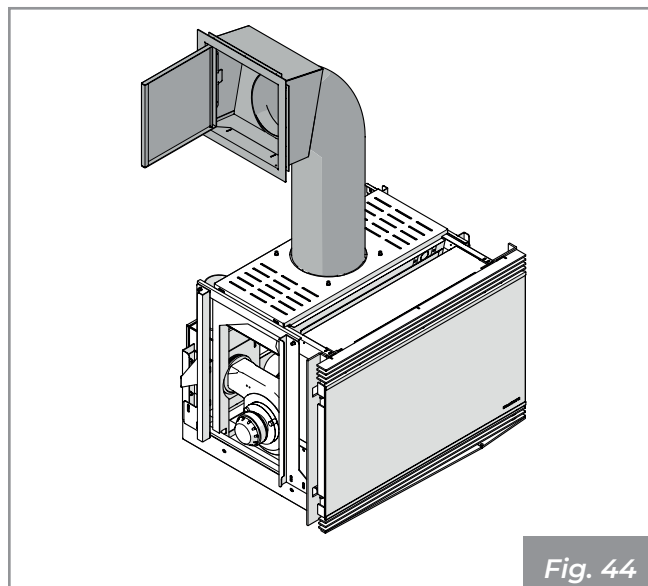

Fig. 44
- Loading system with flexible metal pipe and loading door (Fig. 44).